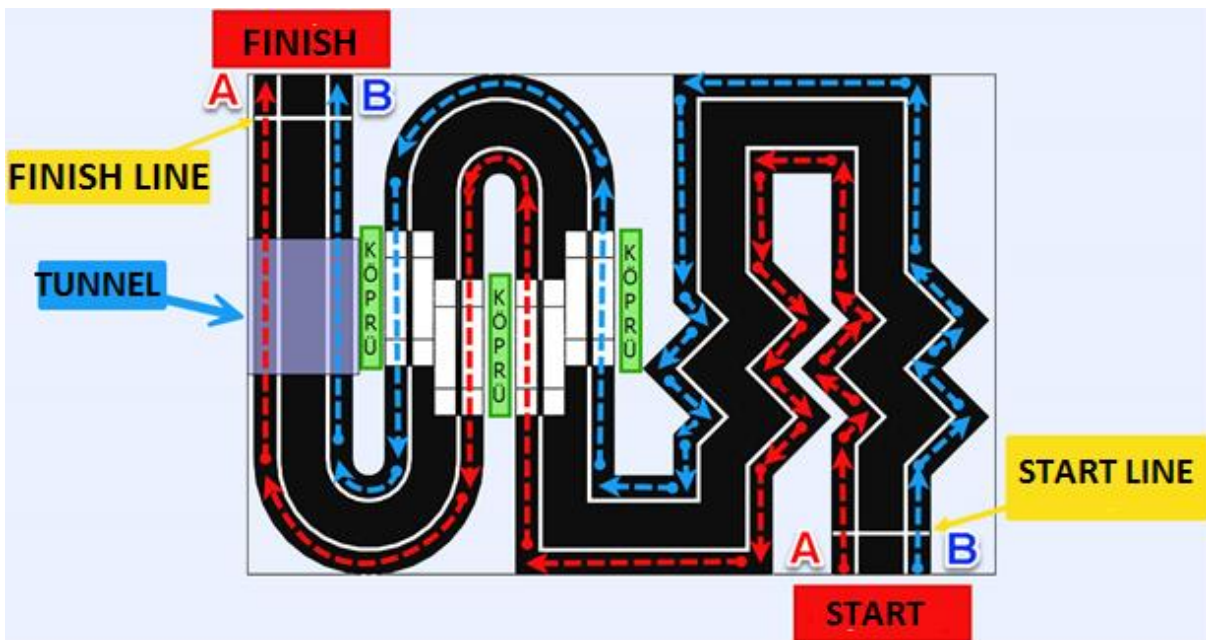

Figure 5. Robot movement directions
- It is compulsory for the robots to move on the track in the direction of movement indicated in Figure 5.